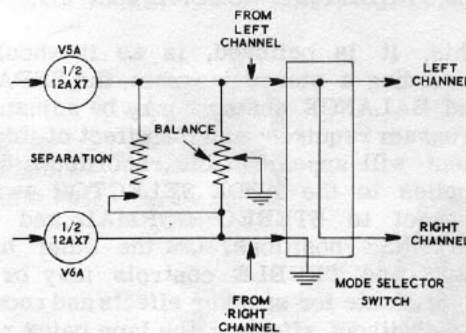

Figure 2C
**MONO LEFT position:** See Figure 2C. In this position any input to the Left Channel may be fed simultaneously to both the Left and Right Channel outputs.